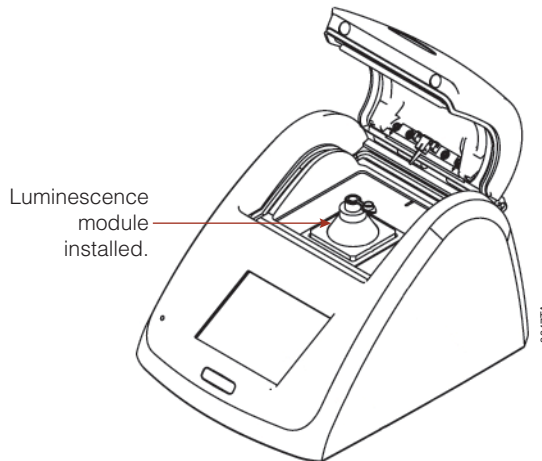

Figure 9. Luminescence Module Installed.
4. Press down to lock the Luminescence Module in place (see Figure 9).